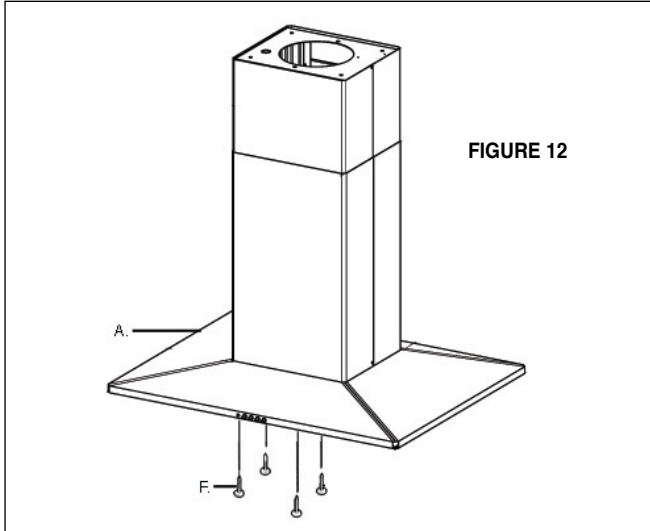

FIGURE 12
4. From below, attach the CANOPY SECTION (A in FIGURE 12) to the assembled chimney support using the four bolts provided (F in FIGURE 12).